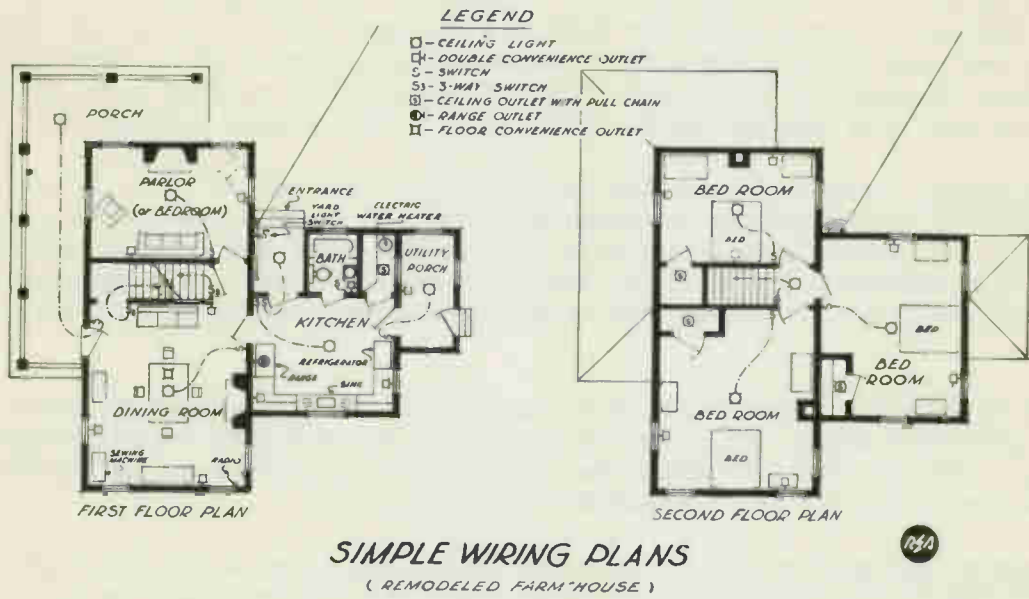

Fig. 1
In fig. 1 is shown the plans of an average farm home which has been wired for electricity. This home is typical of old houses in which wiring was not installed at the time of building. Part of the remodeling here consisted of placing the bathroom on the side porch, since there was no other place available for it. When remodeling the kitchen, the old coal range was removed and an electric range installed in its place; also, a new kitchen sink and new cupboards. The following description refers to the various rooms shown on these plans and it is suggested that the plans be referred to while reading the following paragraphs:
**Mounting Outlet Boxes** - For new work, the code requires outlet boxes with a minimum depth of  $1\frac{1}{2}$  inch; for old work this requirement is waived when the use of deeper boxes leads to injury of the building structure. Boxes  $\frac{1}{2}$  in. deep are therefore commonly used. If the outlet box is located so that it can be attached to a joist or similar substantial timber, install as shown in Fig. 1.